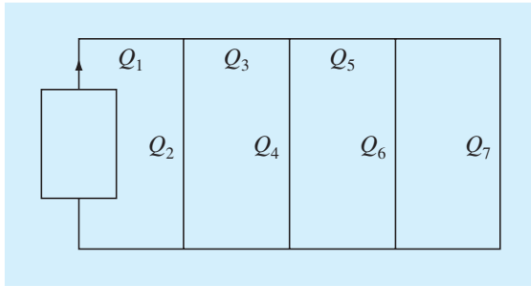

FIGURE P9.14
9.14 A peristaltic pump delivers a unit flow (Q_1) of a highly viscous fluid. The network is depicted in Fig. P9.14. Every pipe section has the same length and diameter. The mass and mechanical energy balance can be simplified to obtain the